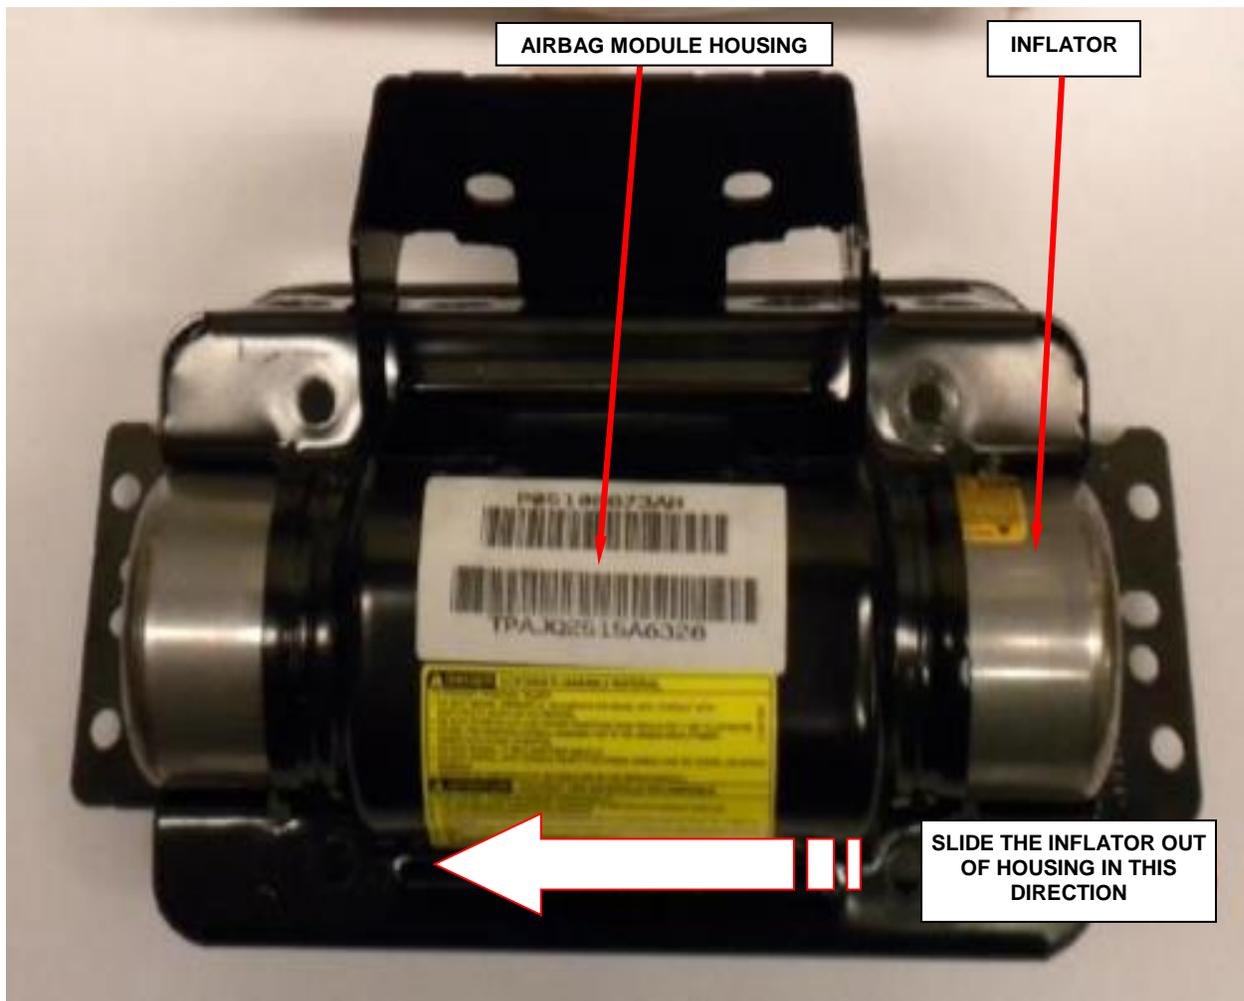

Figure 36 – Remove Airbag Inflator
- k. Slide the inflator out of the passenger airbag module housing (Figure 36).